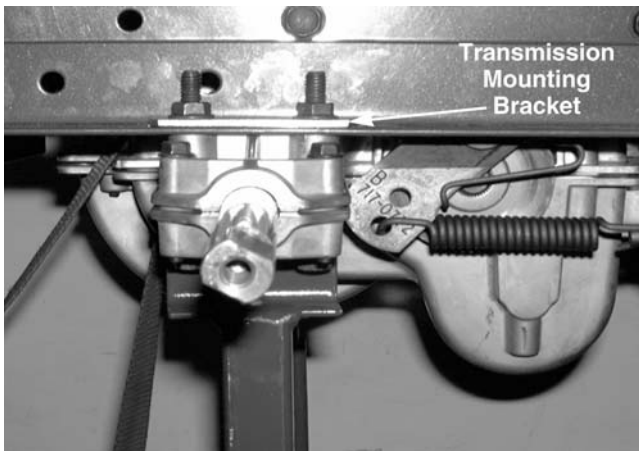

Figure 9-29
10. Remove all four hex bolts and lock nuts securing the transmission to the frame using a 1/2" socket and a 1/2" wrench. See Figure 9-29.